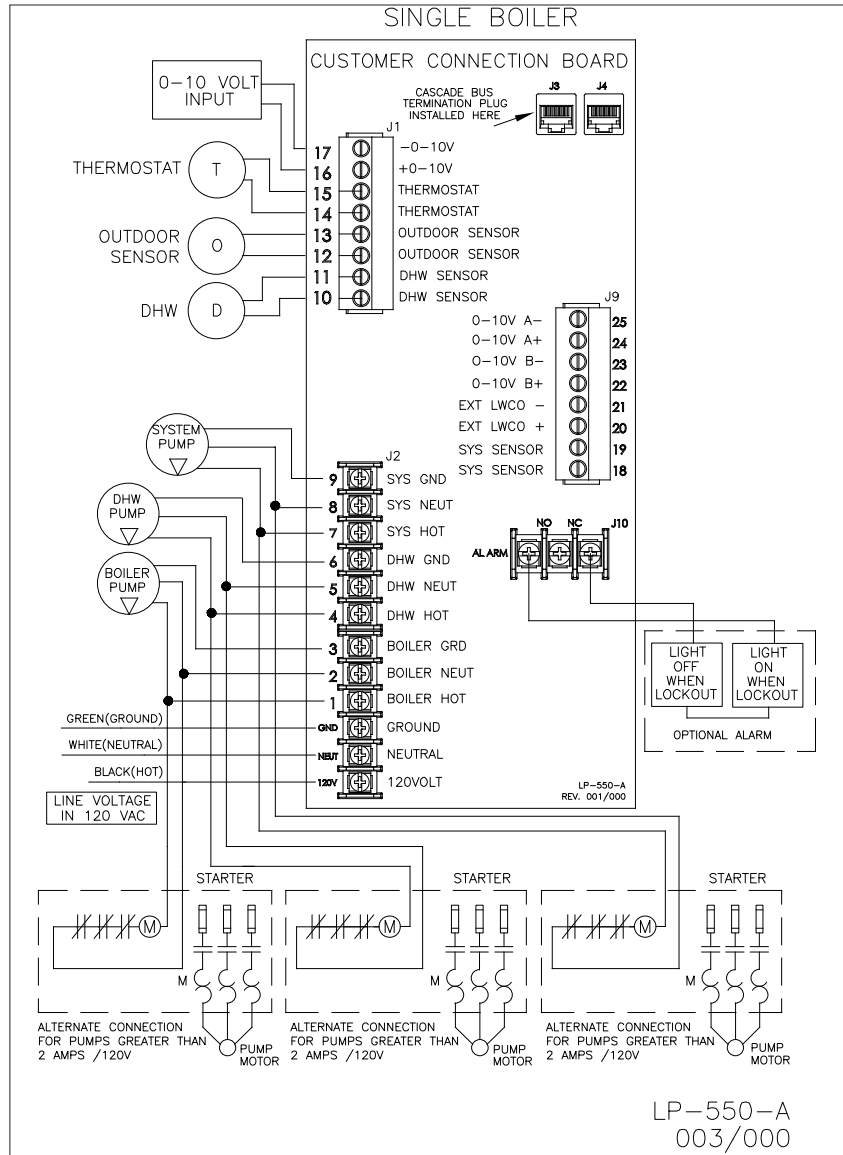

Figure 24 - Control Wiring
NOTE: A termination plug is included in the CAT 3 / CAT 5 Bus Connection Point, labeled J3 in Figure 24. **DO NOT REMOVE THIS PLUG!** Doing so will affect boiler operation and void warranty.
1. Connect 120V / 60Hz / 15 AMP incoming power wiring to the line voltage terminal strip in the electrical junction box at terminals 120V, Neutral, Ground (shown in Figure 24).
3. Connect the boiler pump as shown in Figure 24 to the terminals marked 1 – (HOT), 2 – (NEUT), and 3 – (GND). The connections shown are suitable for a maximum continuous pump draw of 2 amps at 120 volts. If the pump requires more current or voltage than the 120 volts supplied, an external motor starter or contactor will be required.
The control includes a dry contact alarm output. This is an SPDT circuit, rated at 5 amps at 120 volts. This contact can be used to activate an alarm light or bell or notify a building management system if the boiler goes into a lockout condition. The circuit between the ALARM COM and NC terminals is closed during normal operation and the circuit between ALARM COM and NO is open during normal operation. The connections depicted in Figure 24 show two 120 volt lights connected to the alarm terminals. One light will be on when the boiler is in normal mode and the other light will be on when the boiler is in lockout mode.
1. Connect the room thermostat to the terminals marked THERMOSTAT in the electrical junction box (see Figures 24 and 26). Alternately, any dry contact closure across these terminals will cause the boiler to run. Take caution to ensure neither of the terminals becomes connected to ground.
2. Connect the indirect sensor (7250P-325) to the terminals marked DHW SENSOR (shown in Figures 24 and 26) in the electrical junction box.
2. Connect a building management system or other auxiliary control signal to the terminals marked 16, 0-10 VOLT + and 17, 0-10 VOLT - in the electrical junction box (shown in Figure 24). Caution should be used to ensure that the 0-10 VOLT + connection does not become connected to ground.
1. Connect the boiler pump as shown in Figure 24 to the terminals marked 1 – (HOT), 2 – (NEUT), and 3 – (GND). The connections shown are suitable for a maximum continuous pump draw of 2 amps at 120 volts. If the pump requires more current or voltage than the 120 volts supplied, an external motor starter or contactor will be required.